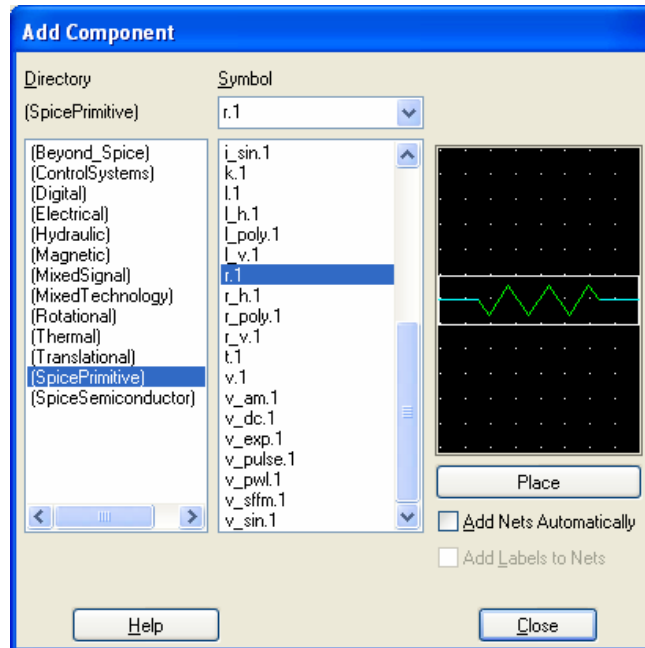

Figure 2 - Accessing SPICE Symbols
1. To access the SPICE symbols mentioned above, select **Add > Component** from the pull-down menu and scroll down the symbol library list as shown in Figure 2.